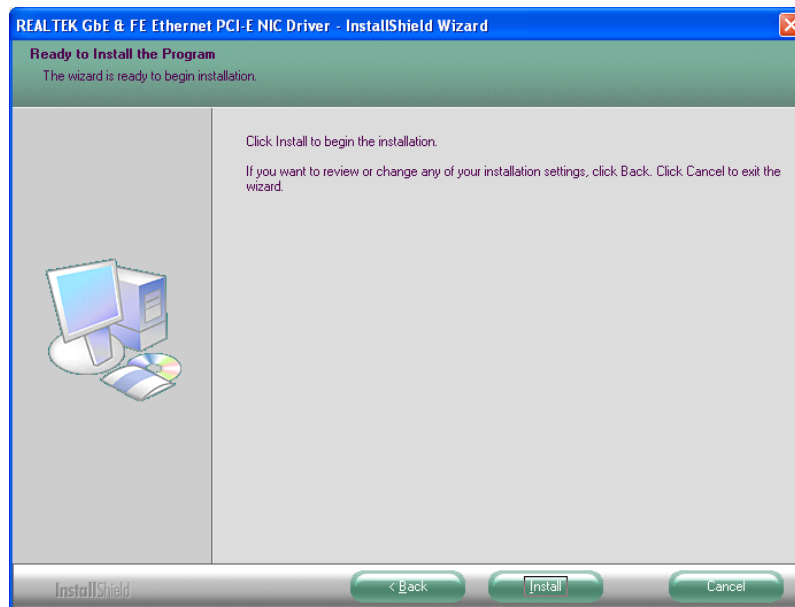

Figure 7-22: LAN Driver Welcome Screen
Step 5: The **Ready to Install** screen in **Figure 7-22** appears.